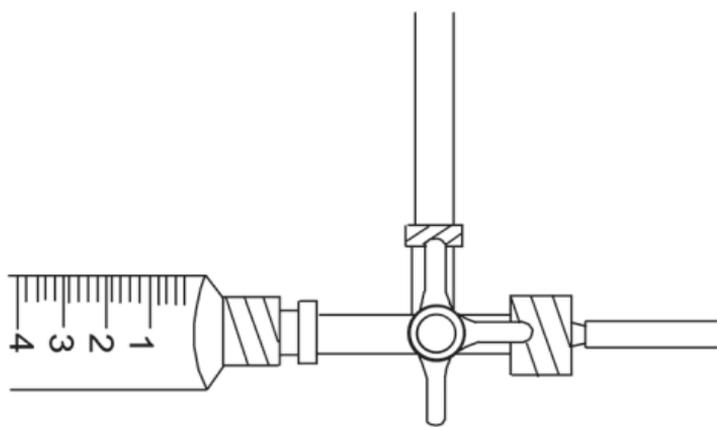

Figure A-3
- Turn the stopcock to connect the manometer to the Codman Hakim Valve and SiphonGuard Device (Figure A-3).